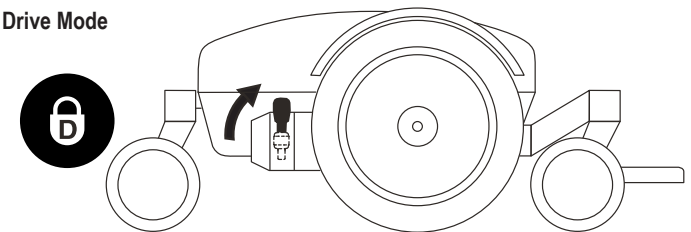

Figure 3. Manual Freewheel Lever Operation
1. Push down both manual freewheel levers for freewheel mode (drive motor disengaged). See figure 3.